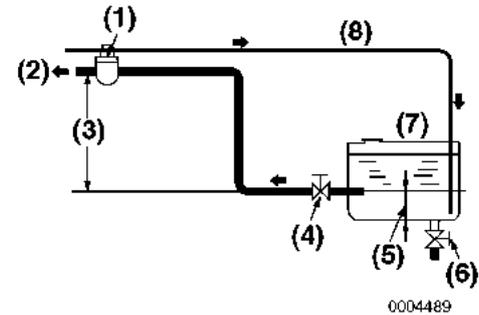

Figure 3-48
Shown is a typical installation of a boat fuel system. Fuel supply (Figure 3-48, (2)) and return (Figure 3-48, (8)) lines connect to fittings at the engine.
Install a drain cock (Figure 3-48, (6)) at the bottom of the fuel tank to remove water and contaminants.